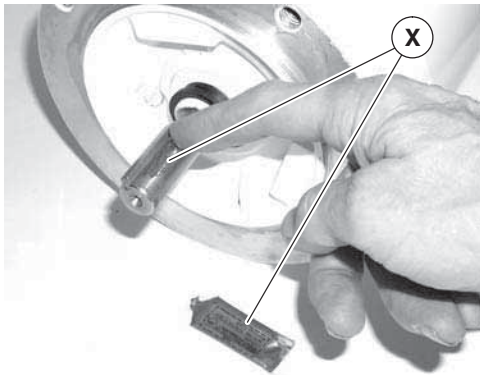

Figure 18
2. Apply anti-seize compound (Figure 18, item X) to motor shaft.